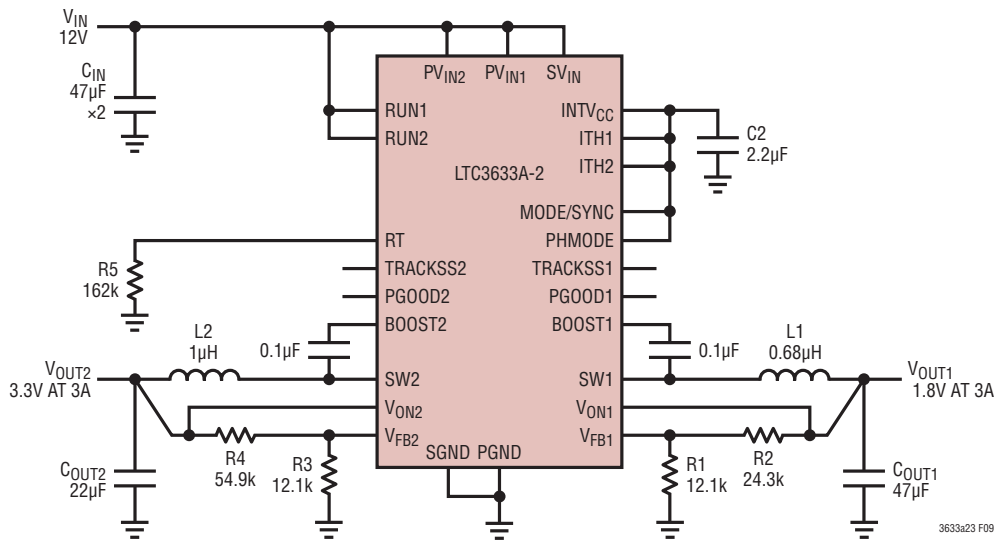

Figure 9. Design Example Circuit
- 3) The resistive divider, (e.g. R1 to R4 in Figure 9) must be connected between the (+) plate of C_{OUT} and a ground line terminated near SGND. The feedback signal V_{FB} should be routed away from noisy components and traces, such as the SW line, and its trace length should be minimized. In addition, the R_T resistor and loop compensation components should be terminated to SGND.
The final circuit is shown in Figure 9.